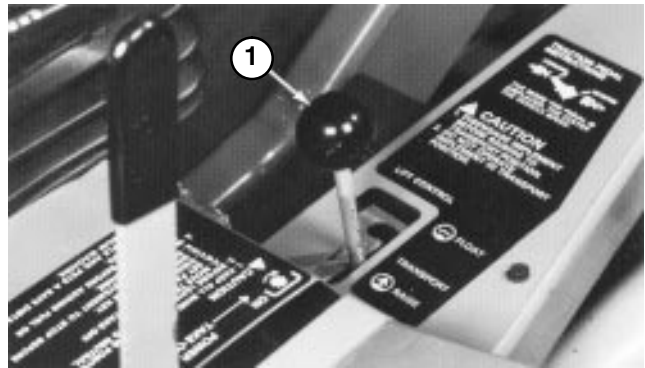
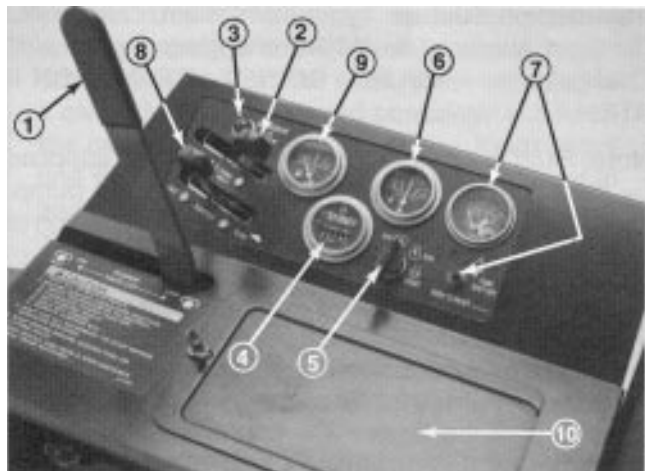

Figure 19
Figure 20
Lift Lever (Fig. 19)—The hydraulic lift lever has three positions: FLOAT, TRANSPORT, and RAISE. To lower implement to the ground, move lift lever forward into notch, which is the FLOAT position. The FLOAT position is used for operation and also when machine is not in operation. To raise implement, pull lift lever backward to the RAISE position. After implement is raised, allow lift lever to move to the TRANSPORT position. Normally, implement should be raised when driving from one work area to another, except when descending steep slopes.
PTO Lever (Fig. 20) – The PTO lever has two positions: ON (engage) and OFF (disengage). Slowly push PTO lever fully forward to ON position to start the implement or cutting unit blades. Slowly, pull lever backward to OFF position to stop implement operation. The only time PTO lever should be in the ON position is when implement or cutting unit is down in operating position.
Hour Meter (Fig. 20) – The hour meter registers accumulated hours of engine operation. Use the hour meter to determine intervals for service maintenance and lubrication.
Fuel Gauge (Fig. 20) – Indicates quantity of fuel remaining in fuel tank.
Oil Pressure Warning Light (Fig. 20) – The oil pressure warning light glows and a buzzer sounds when oil pressure in engine drops below a safe level. If low oil pressure ever occurs, stop engine and determine the cause. Repair the damage before starting the engine again.
Ammeter (Fig. 20) – Ammeter shows charge rate of the battery by the alternator. When engine is running, there usually is a slight charge, unless engine is idling slowly. Needle points to 0 when battery is fully charged. By contrast, alternator is not charging the battery when needle points to (-) negative side of ammeter. If this happens, repair the charging system to prevent discharge of the battery.
Temperature Switch/Gauge and Reset Button (Fig. 20) – The temperature switch/gauge registers the temperature of the coolant in the cooling system. If temperature of coolant gets too high the engine will shut off automatically. When this happens, rotate ignition key to OFF. Automatic shut-off of the engine usually results from debris on front of screen or radiator, which reduces air flow. After cleaning outside of screen and radiator or repairing some other damage, press the reset button and start the engine.
Ignition Switch (Fig. 20) – The key switch, which is used to start and stop the engine, has three position: OFF, RUN, and START. Rotate key clockwise to the START position to engage starter motor. When engine starts, release key and it will move automatically to the ON position. To shut engine off, rotate key counterclockwise to the OFF position.
Choke (Fig. 20) – To start a cold engine, close carburetor choke by moving choke control fully forward. After engine starts, regulate choke to keep engine running smoothly. As soon as possible, open the choke by pulling it backward.
Throttle Control (Fig. 20) – Throttle is used to operate engine at various speeds. Moving throttle forward increases engine speed—FAST; backward decreases engine speed—SLOW. The throttle regulates the speed of the cutter blades or other implement components and, in conjunction with traction pedal, controls ground speed of the traction unit.
1. Ensure parking brake is set, PTO lever is in OFF position (Fig. 20), and lift lever is in TRANSPORT or FLOAT position (Fig. 19). Remove foot from traction pedal and insure it is in neutral.
2. Move throttle control (Fig. 20) to 1/4–1/3 open position.
3. To start engine, move choke lever (Fig. 20) fully forward.
4. Insert key into ignition switch (Fig. 20) and rotate it clockwise to START position. Hold key in START position for a few seconds to energize ignition system. Release key immediately when engine starts and regulate choke to keep engine running smoothly.